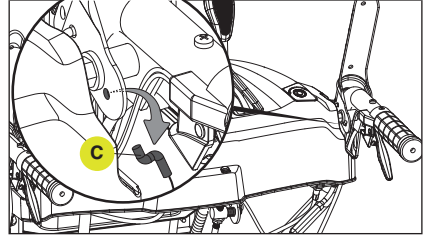

Figure 88
3. Remove the connector (C) from the self-drive control lever. (Fig. 88)